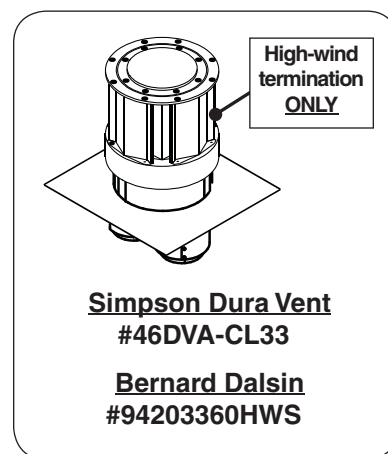

Fig. 22-1
- It is imperative that the appliance be installed using only one of the following RHP approved direct-vent flex kits (see Fig. 22-1):**